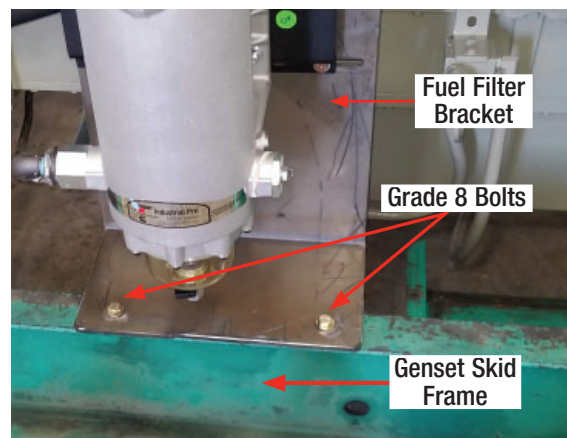

Figure 2: Fuel Filter Bracket
5. If making a custom bracket, drill 2 or more holes in the skid frame with 11/16 drill bit using bracket as a template (see figure 2).